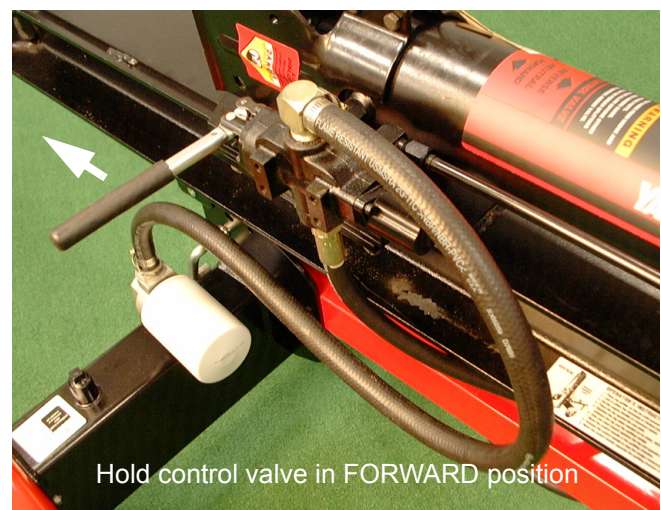

Figure 2
3. Move the control valve handle to the forward position until the wedge assembly is at the end of its travel.____ See Figure 2.